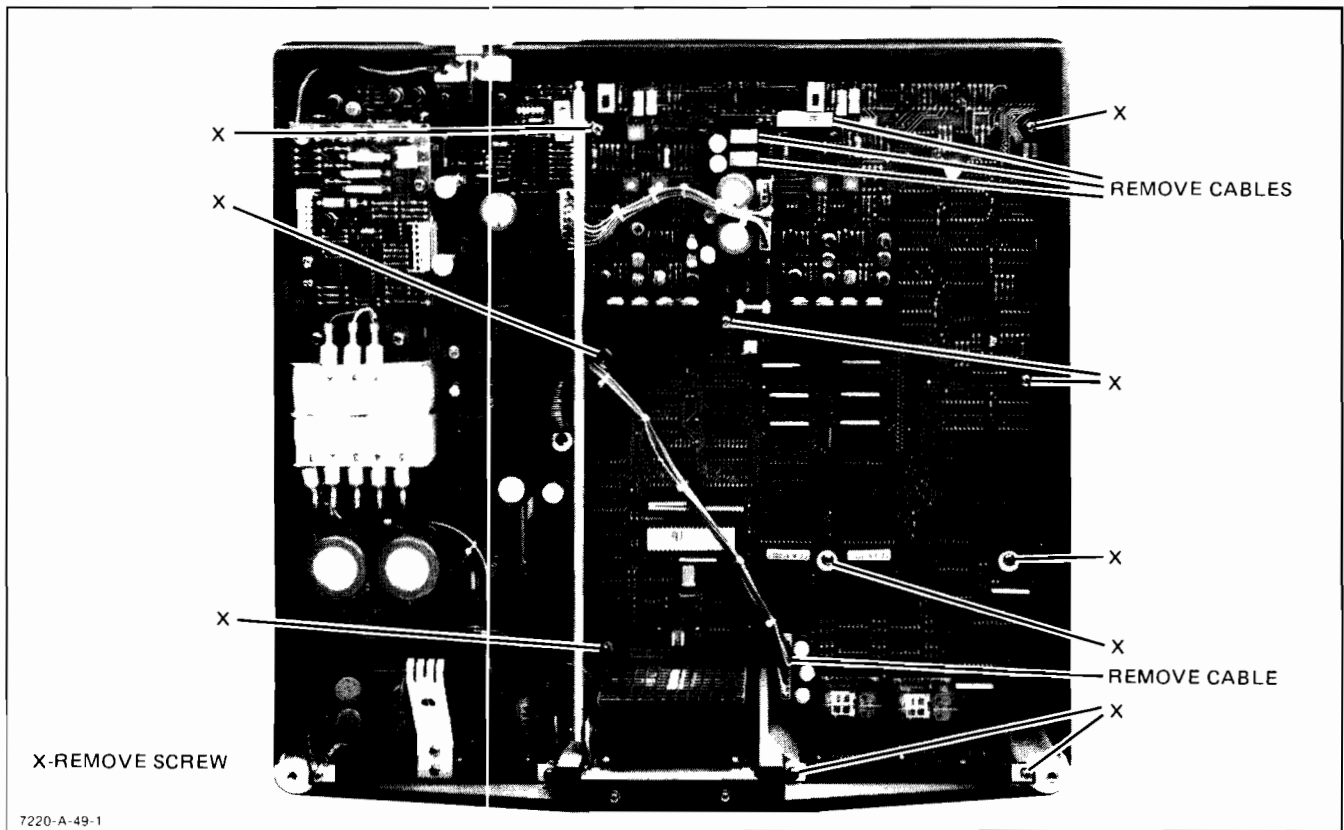

Figure 6-35. Main PCA A2 Removal
- c. Remove the two 6-32 screws from the rear panel. See Figure 6-35.
- b. Unplug the respective motor from the Main PCA A2. See Figure 6-35.